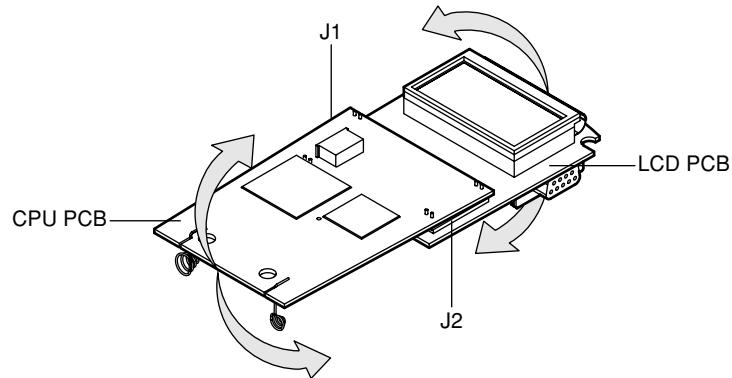

Figure 5-4: Separating LCD PCB from CPU PCB
7. To separate the CPU PCB and the LCD PCB, grasp the CPU PCB in one hand and the LCD PCB in the other. Rotate the ends of the two PCBs as shown in figure 5-4 until the two assemblies separate at the connectors J1 and J2.